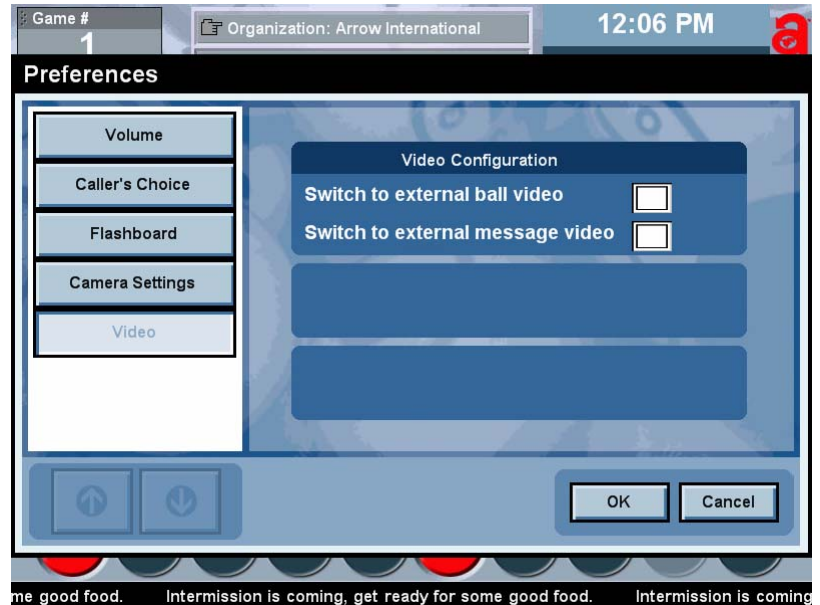

Figure 7.5
3. On the **Live Game Screen**, touch the **Prefs** button. This will bring up the caller preferences screen. (**figure 7.5**)